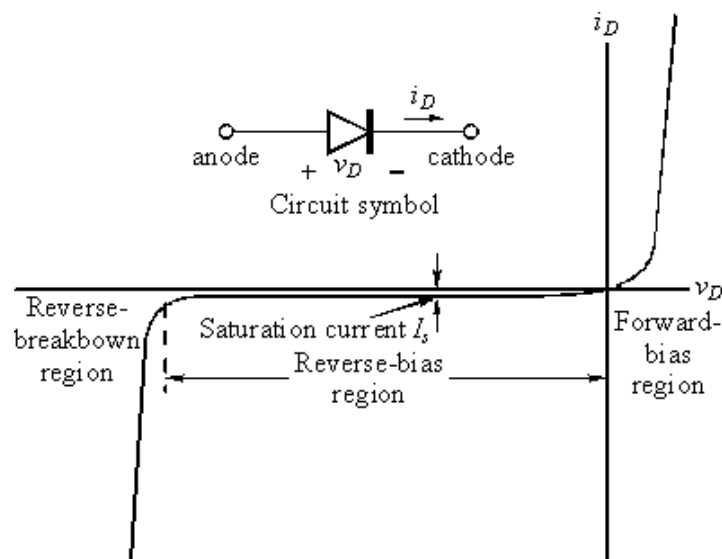

Figure 3: I-V characteristic of a real diode
*I-V curve of a diode:* In comparison, Figure 3 shows typical characteristics of a real diode.